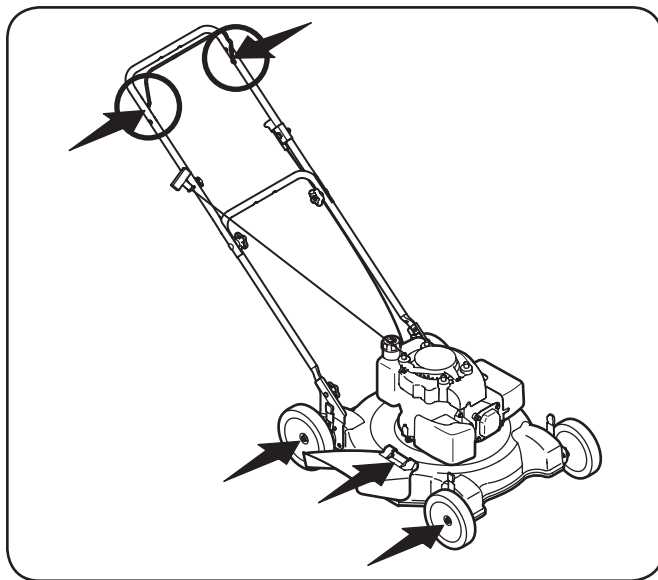

Figure 6-1
1. Lubricate pivot points on the blade control at least once a season with light oil. This control must operate freely in both directions. See Fig. 6-1.
2. Lubricate the wheels at least once a season with light oil (or motor oil). If wheels are removed for any reason, lubricate surface of the pivot arm and inner surface of the wheel with light oil. See Fig. 6-1.
3. Lubricate the torsion springs and pivot points on the side discharge chute periodically with light oil to prevent rust. See Fig. 6-1.